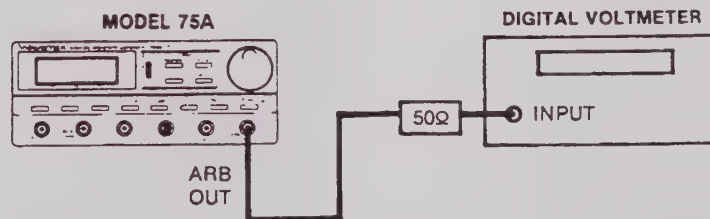

Figure 5-3. Offset Verification Equipment Connection
1. Interconnect the Model 75A and test equipment as shown in figure 5-3.